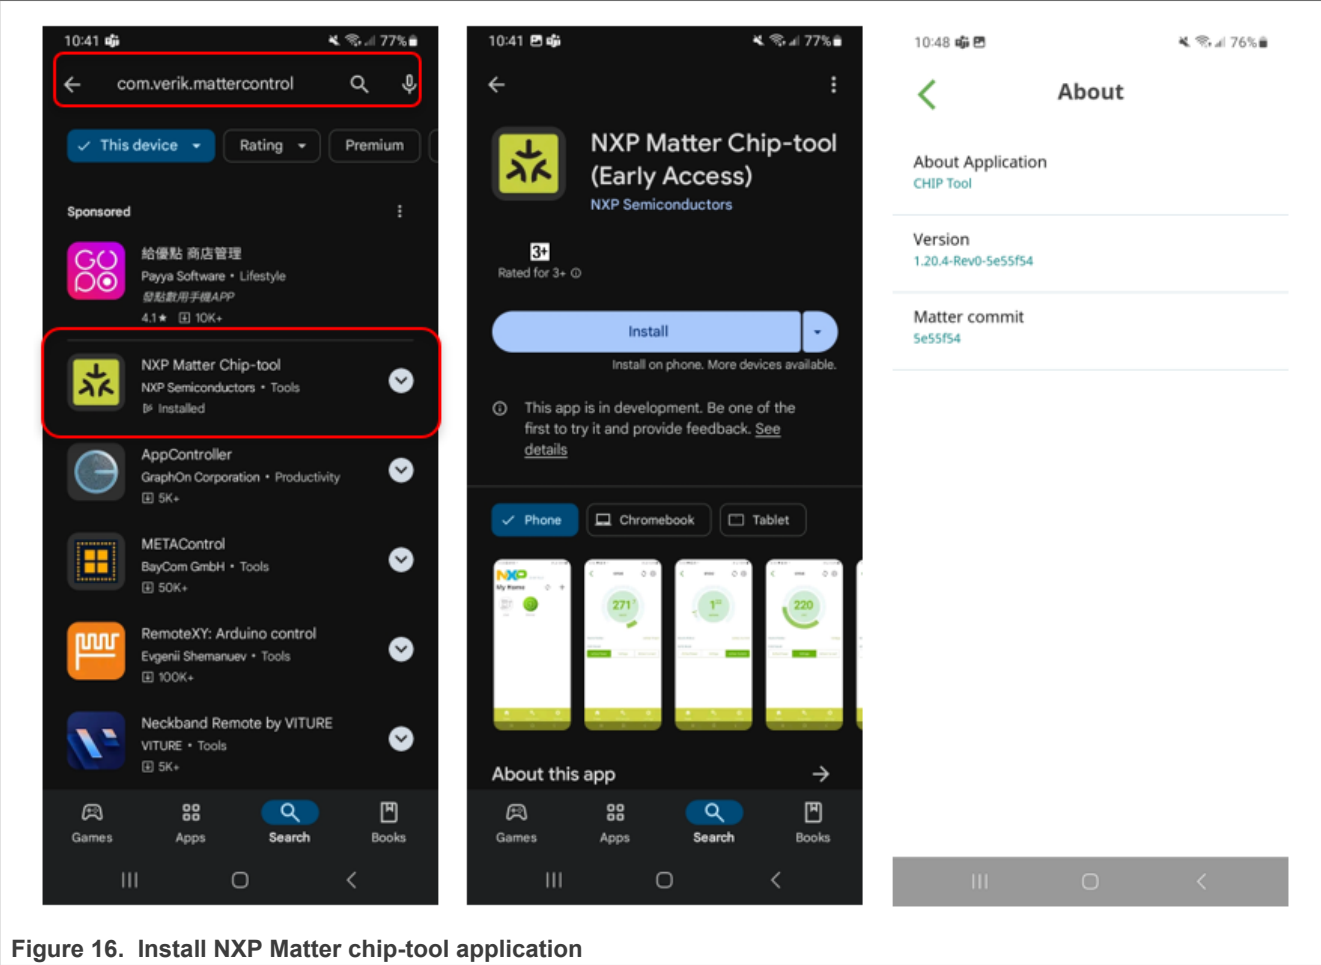

Figure 16. Install NXP Matter chip-tool application
- Search “**NXP Matter Chip-tool**” and select the app file for install as shown in Figure 16
- Complete the installation as shown in Figure 16